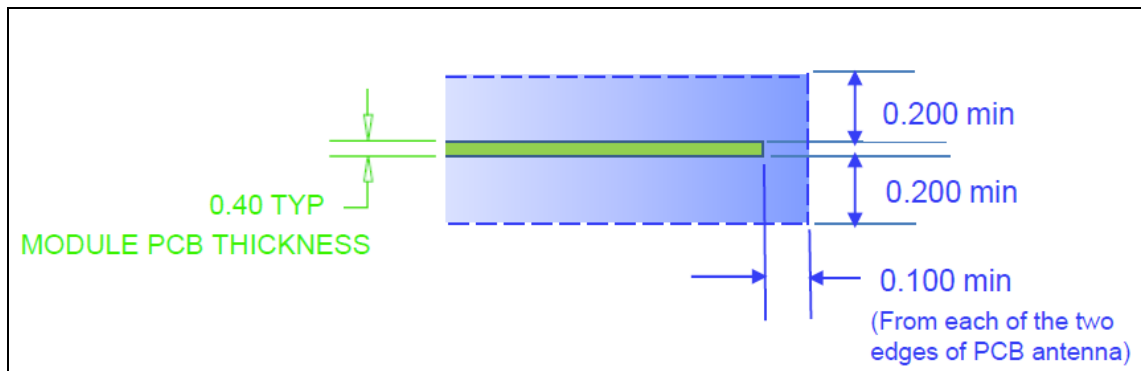

Figure 5-7 Recommended clearance above and below the GS1011MxP trace antenna
- Recommendation is to keep plastic enclosure clearance of 1cm from top and bottom of the GS1011M PCB antenna keep-out area, if possible. 5-mm (0.2 in) clearance shall be the minimum as shown in Figure 5-7.